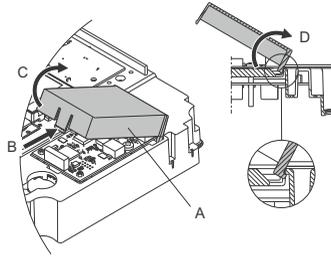

Fig. 74 Removing the CIM cover
2. Remove the CIM cover (fig. 74, A) by pressing the locking tab (fig. 74, B) and lifting the end of the cover (fig. 74, C). Then lift the cover off the hooks (fig. 74, D).